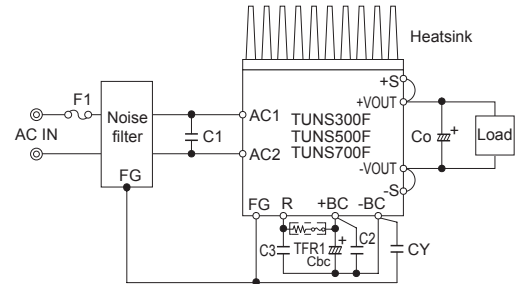

Fig.2.1 Connection for standard use
■To use TUNS series, connection shown in Fig.2.1 and external components are required.
(1) Co : Output capacitor
■ Install an external capacitor Co between +VOUT and -VOUT pins for stable operation of the power supply (Fig.2.1).